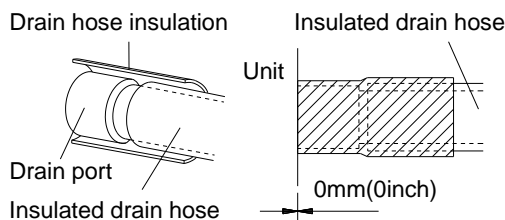

Figure 3-1-12
(9) Be sure to insulate where the drain port and the drain hose is connected. (Figure 3-1-12 )